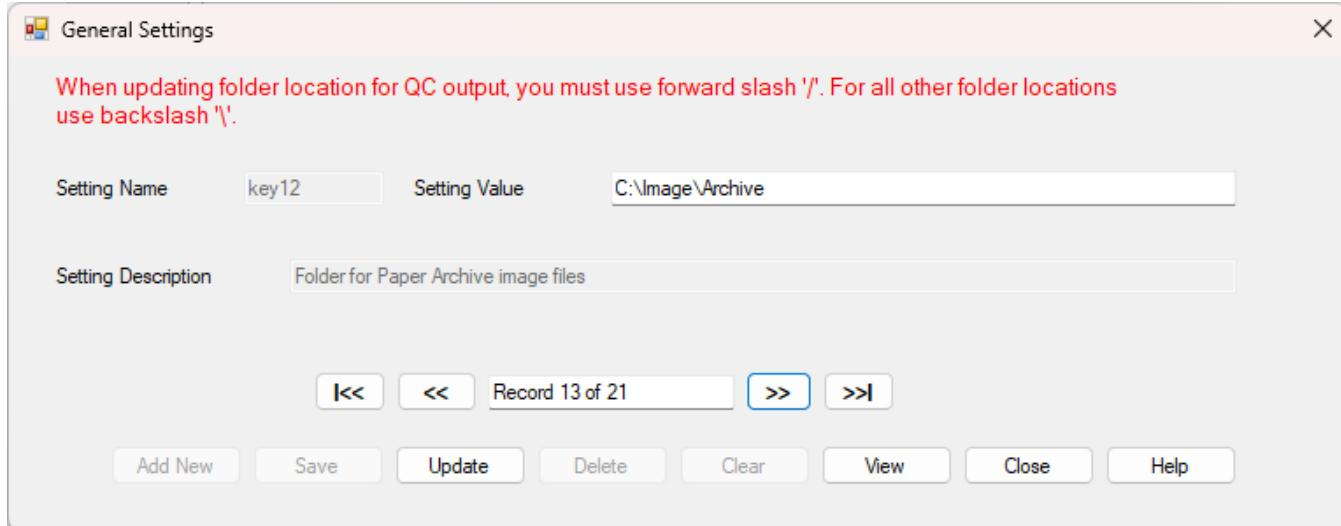

Figure 97: General Setting Dialog
- From the main bar of **Welcome** dialog click **Tools -> General Settings** and browse the records until the “**Setting Description**“ box displays the value; “**Folder for Paper Archive image files**”. See **Figure 97**,